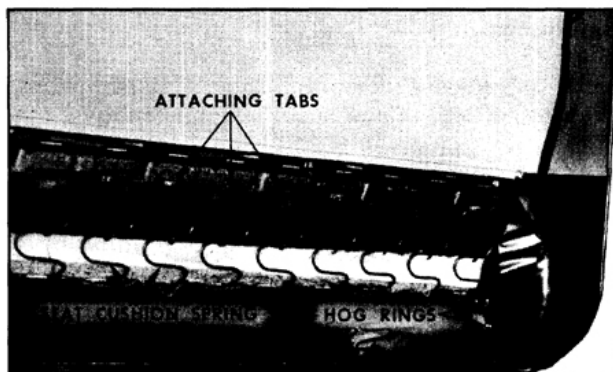

Fig. 16-381 Cushion Spring Attachment
3. Raise trim and remove cardboard breakover foundation to expose seat cushion spring attachment to seat back frame along rear of seat and hog rings securing ends of seat back trim to seat bottom frame. (Fig. 16-381)